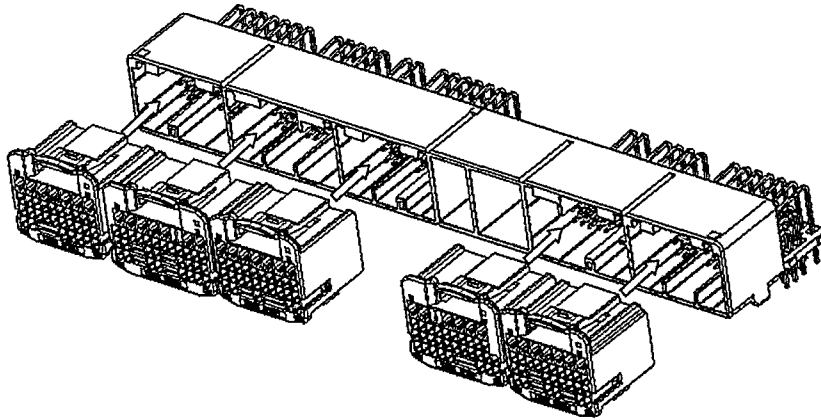

Fig.16
- (1) Check the condition of contact inserted into housing, the position of taping up wire, and the lock of retainer. If the retainer is in pre-assembled condition, press the retainer for final lock condition.
- (2) Check the defects, deformation, discoloration, damage, rust, crack, deficit, etc. of housing and contact.
(3) Insert the proper female housing straight into the male housing with the direction shown on Fig.16. If the operation is finished, you can hear the click sound and can't insert further.